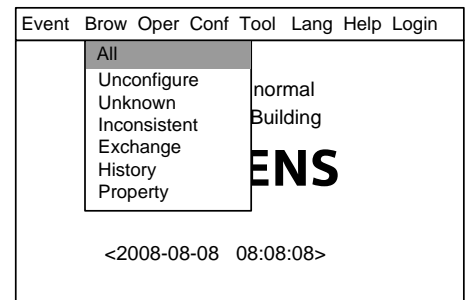
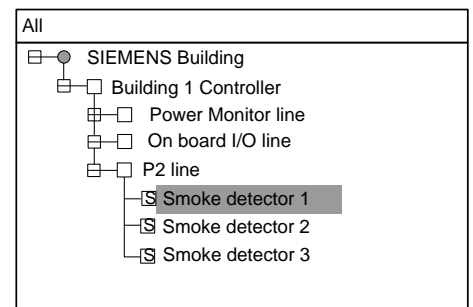

Fig.14-2
Fig.14-3
2. Press “→” to select “Brow” submenu (Fig. 14-2). Press “↓” to select “All”, then press “OK” to display the tree diagram (Fig. 14-3). Search down level by level through stations, lines and points until you find the equipment you are looking for.